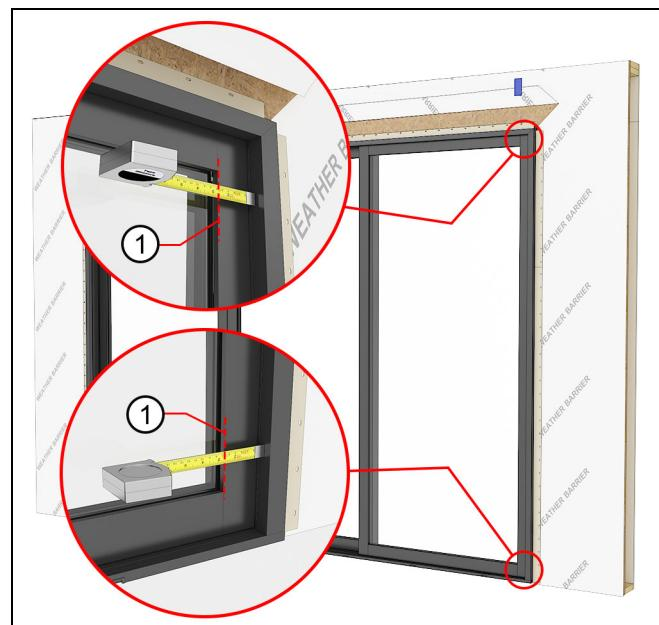

Figure 103
11. Measure from the jamb to the edge of the daylight opening. This should be about $2\frac{5}{8}$ ". See Figure 103.